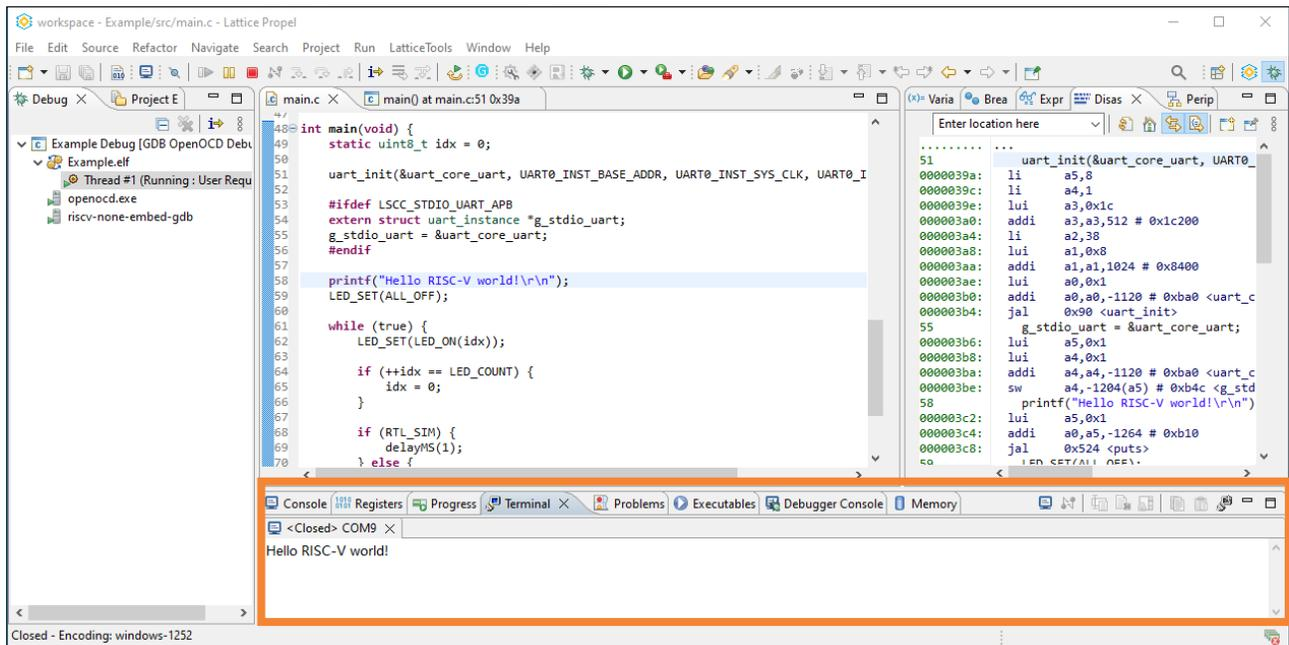

Figure 4.14. Run Result of Hello World Project
9. Click the **Resume** icon  on the toolbar. The serial terminal outputs *Hello RISC-V world!* (Figure 4.14).